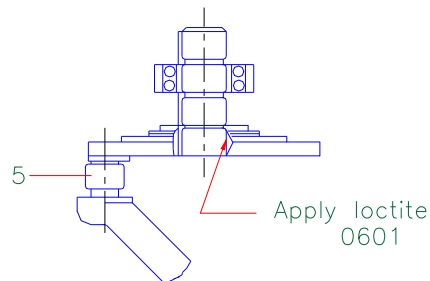
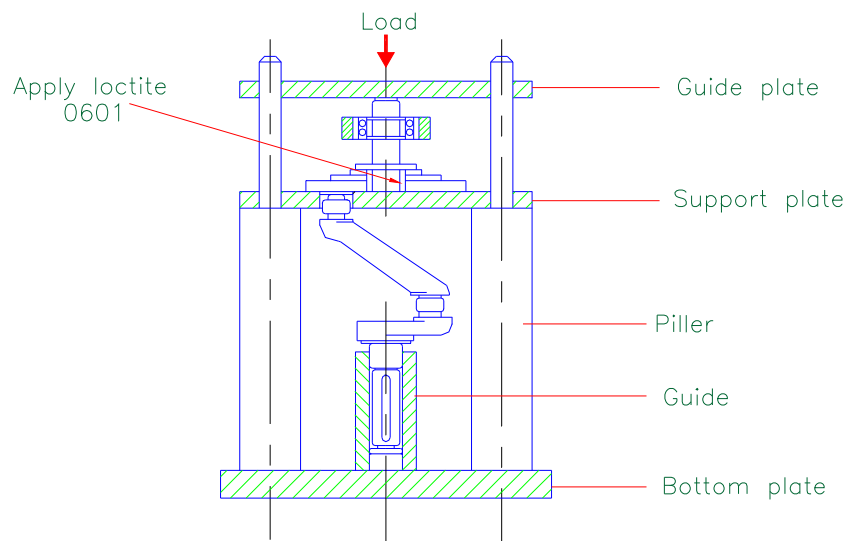

Fig.4
Fig.5
- 7) Lightly press the bearing pin in to the half crank shaft-5 untill guidance can be felt. (See Fig. 4)
- 8) Coat the bore $\varnothing 24-H7$ of the half crank shaft with loctite 0601 (joining parts) and press on the bearing pin (See Fig. 4) pressing of bearing pin is to be done with suitable fixture such that load comes on round disc $\varnothing 128$ only (See Fig. 5) and end diameter is guided as per figure.